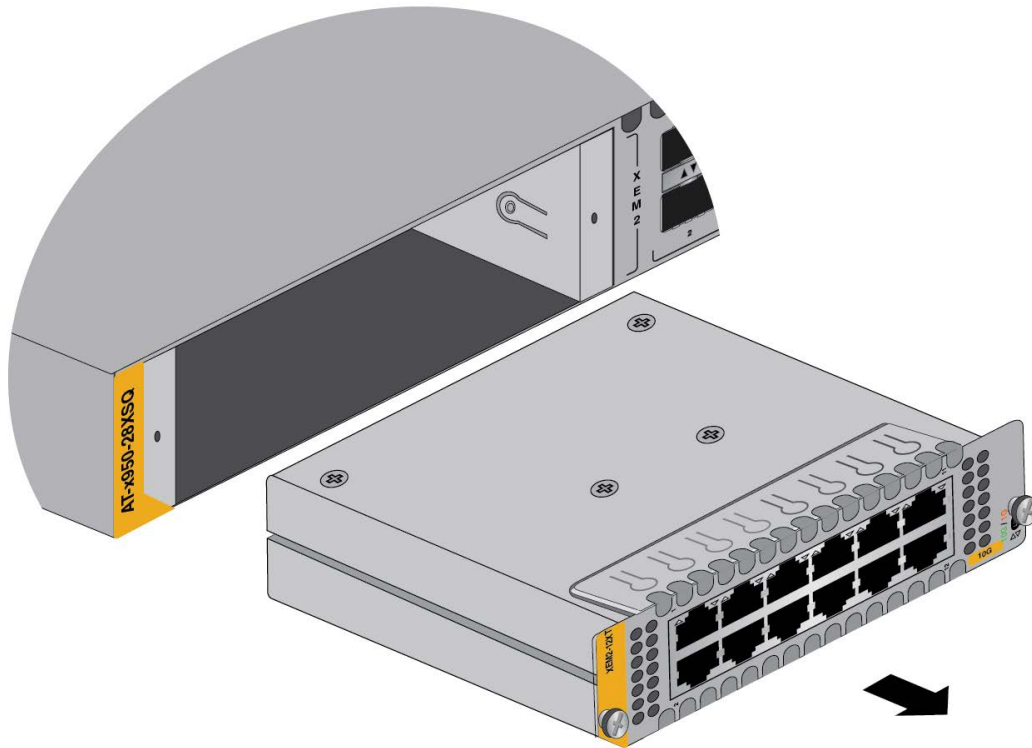

Figure 126. Sliding an Ethernet Line Card from the Switch
6. Carefully slide the card from the switch. Refer to Figure 126.